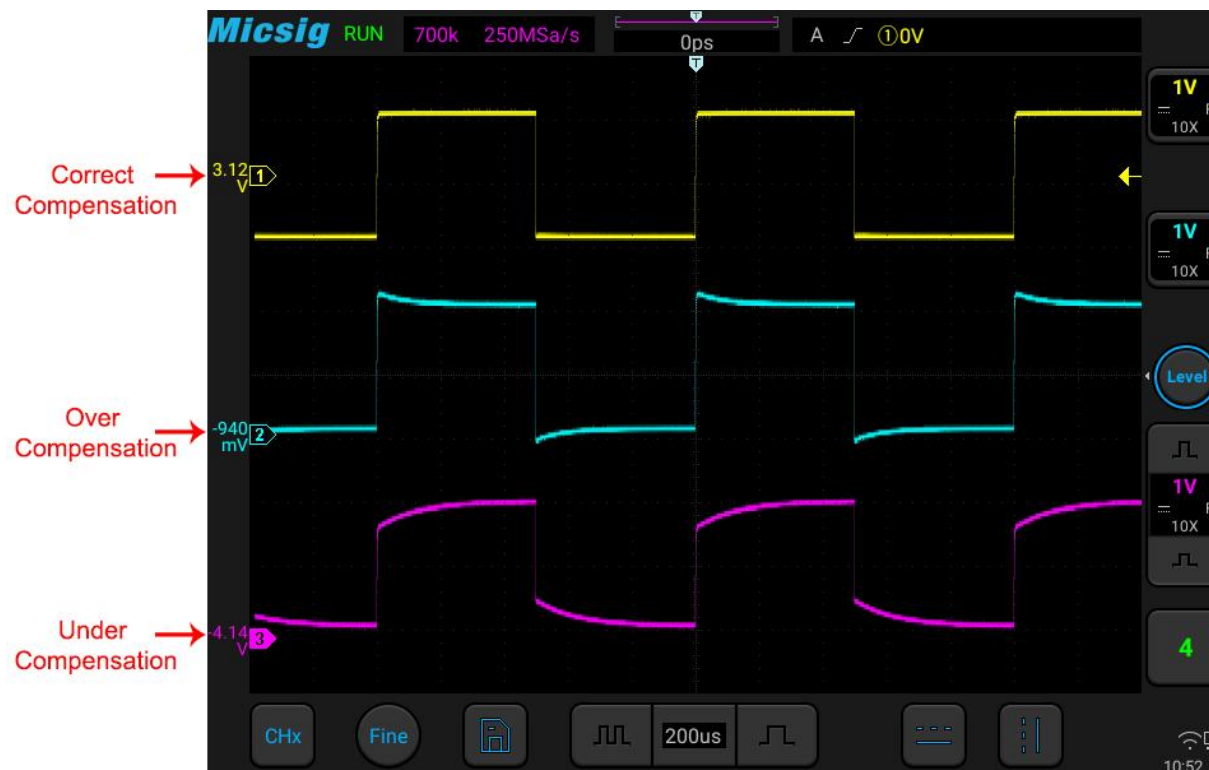

Figure 2-14 Probe Compensation
- 5) Tap Auto button or manually adjust the waveform vertical sensitivity and horizontal time base. Observe the shape of the waveform, see Figure 2-14.